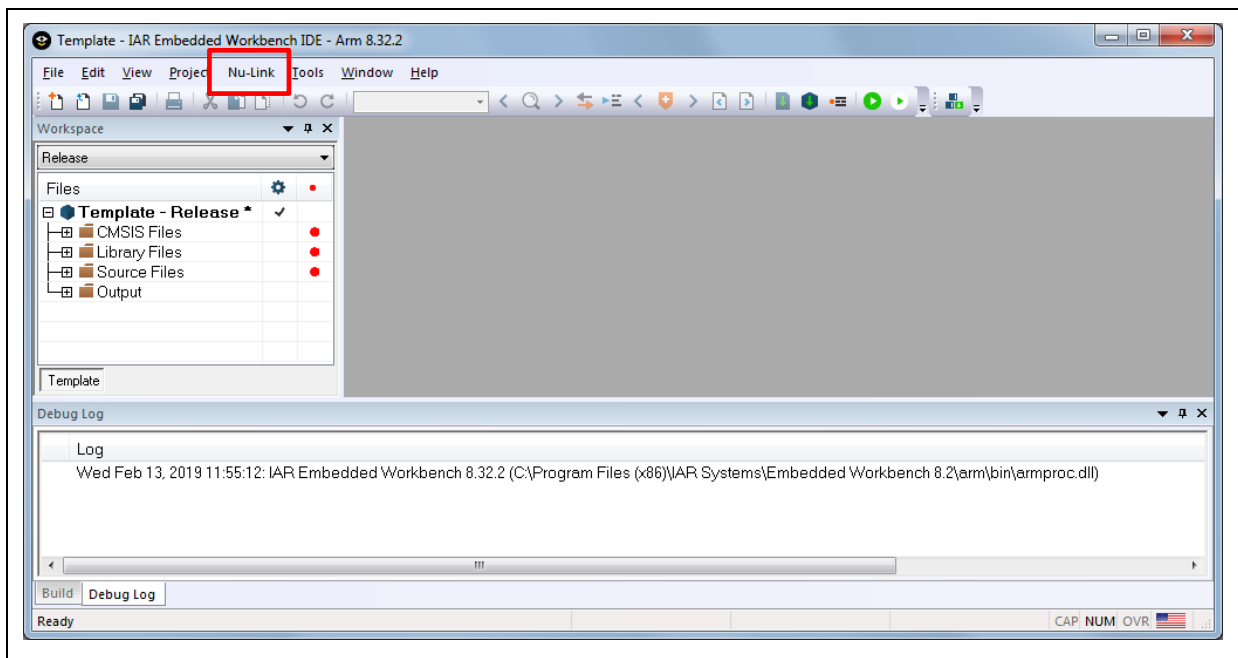

Figure 3-23 IAR EWARM Window
2. Make sure the toolbar contain “Nu-Link” item as shown in Figure 3-23.